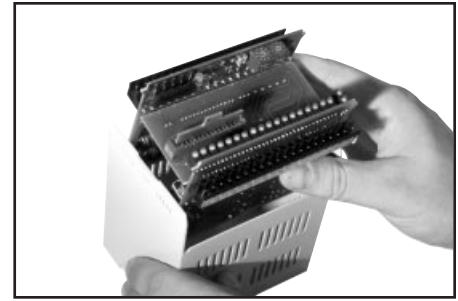

Figure 13. Pull the three-circuit board assembly from the housing.
- 2) Align the board edges with the slots on the module walls (use the slots which are closest to the vented module walls). Slide the three-board assembly into the module. Apply pressure on the top edge of the boards until the locking tabs on the boards engage the slots on the housing. Squeeze the sides of the housing to fully engage the tabs into their slots (Figure 13).